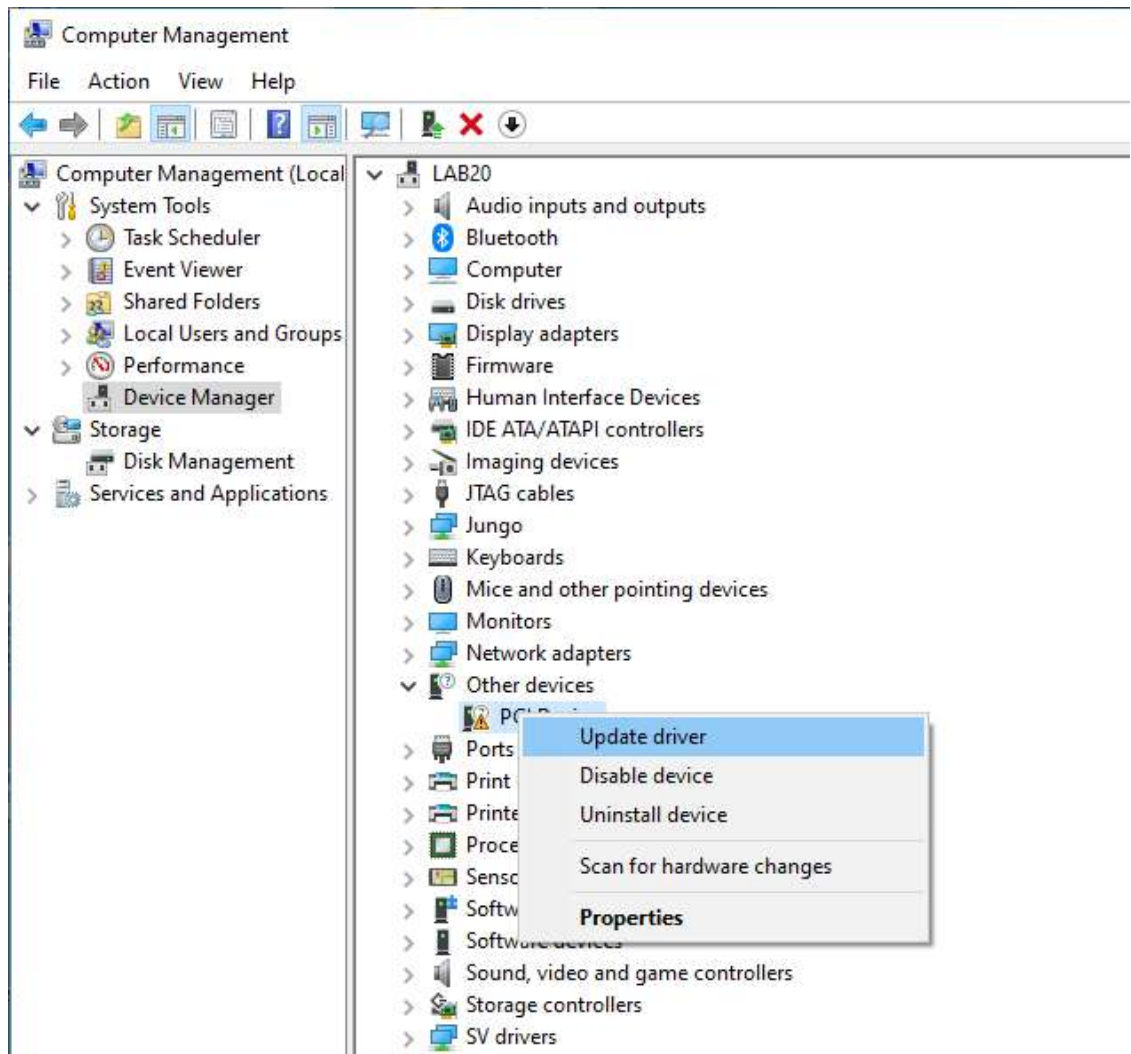

Figure 7-3 Screenshot of launching Update Driver Software... dialog
5. Click the Control Panel menu from Windows Start menu. Click the Hardware and Sound item before clicking the Device Manager to launch the Device Manager dialog. There will be a PCI Device item in the dialog, as shown in **Figure 7-3**. Move the mouse cursor to the PCI Device item and right click it to select the Updated Driver Software... items.